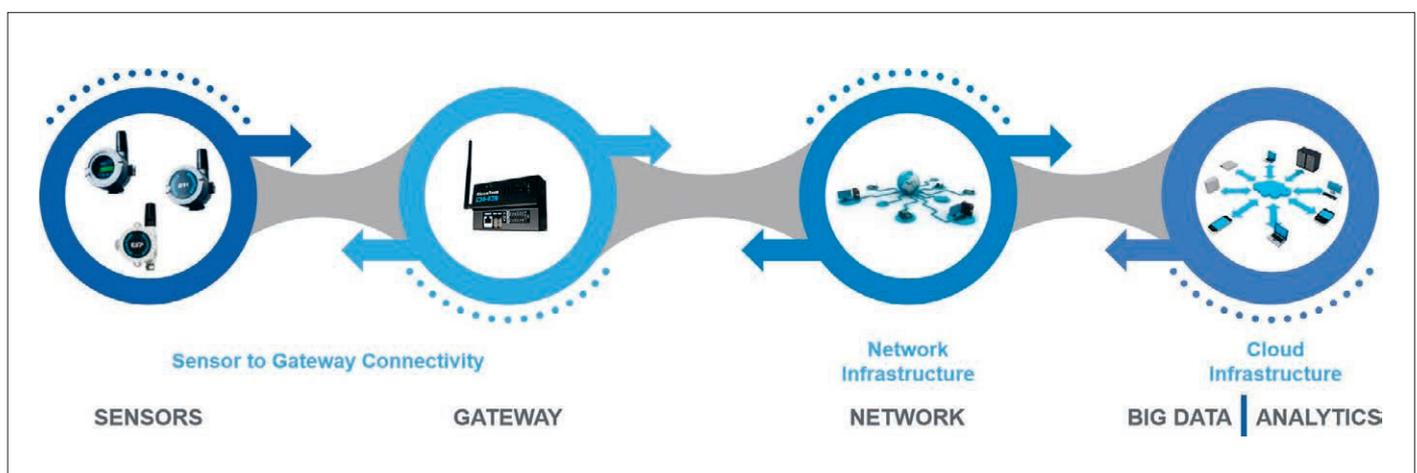

Figure 1: IoT Ecosystem
**Figure 1**, consists of sensors, gateways, infrastructure, and of course, the flashy part of the IoT ecosystem, big data and analytics. A speaker at a recent IoT conference summed it up best with the statement: “Big data will be big!” The modelling of data supporting predictive analytics, whether it resides in the cloud or at the edge, gives organizations the ability to quickly diagnose and troubleshoot not only their sensor networks from a predictive maintenance perspective but also their operations, reducing excess use